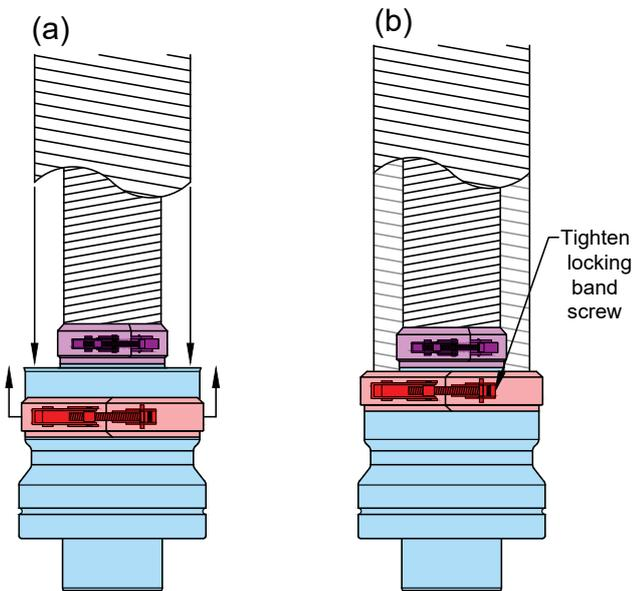

Figure 4-7: Fitting outer flue liner to adaptor
Refer to Figure 4-7 (a).
11. Position the stainless steel locking band provided over the joint between the outer liner and adaptor socket. Close the toggle clip ensuring that the sloping top edge of the locking band grips onto the corrugations of the outer liner. Refer to Figures 4-7.
Refer to Figure 4-7 (b).